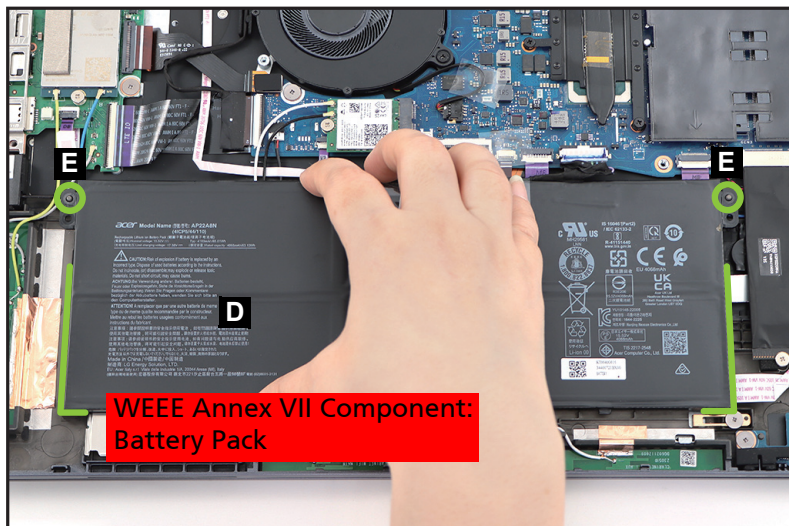

Figure 1-10. Battery Pack Removal
4. Lift to release the battery pack (D) from the guide pins (E) and compartment studs (highlighted with the green lines) (Figure 1-10). Then remove the battery pack.